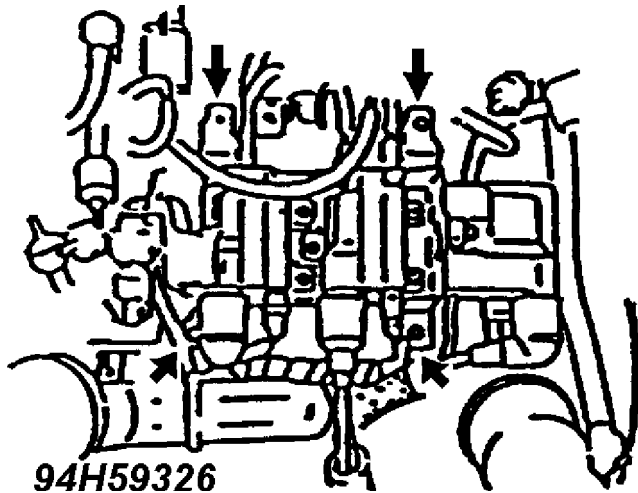

Fig. 44: Four Nuts Holding the Ignition Coil Assembly
21. Remove the ignition coil assembly. Remove the four nuts shown in Fig. 44. Tightening torque of the nuts for reassembly: